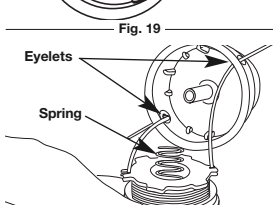

Fig. 20
13. Insert the ends of the line through the eyelets in the outer spool and place inner reel with spring inside the outer spool (Fig. 20). Push the inner reel and outer spool together. While holding the inner reel and outer spool, grasp the ends and pull firmly to release the line from the holding slots in the reel.